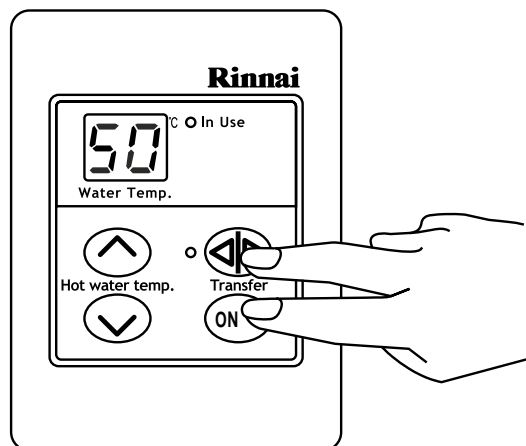

Fig 2.
**STEP 1:** On the Master controller press and hold the **Transfer** and **On/Off** buttons simultaneously (see fig 2.) until a “beep” is heard (approx. 5 seconds)
**STEP 1:** On the Master controller only press and hold the **Transfer** and **On/Off** buttons simultaneously (see fig 2.) until a “beep” is heard (approx. 5 seconds)